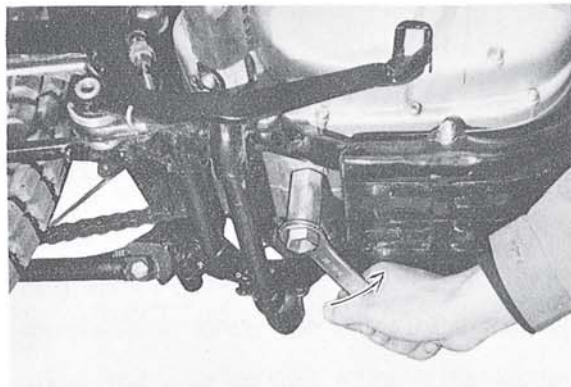

Fig. IV-1-1
1. Start the engine and warm it up for a few minutes, then turn off the engine and drain the transmission oil. (Fig. IV-1-1)